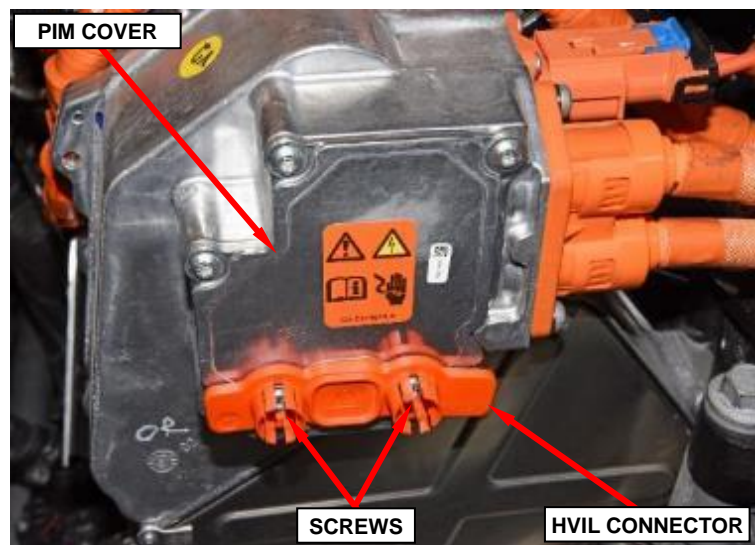

Figure 13 – HVIL Connector
21. Loosen two captive screws then remove and save the single High Voltage Inter-Lock (HVIL) connector from the PIM cover (Figure 13).